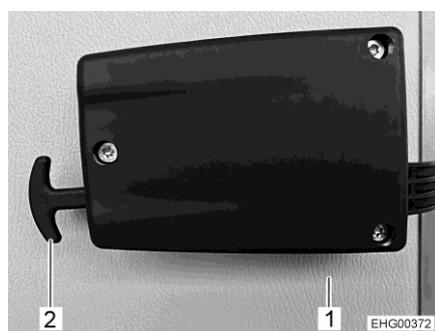

Fig. 55 Garage flap emergency release
- Pull both handles of the emergency release (Fig. 55,2).
- Push the garage flap (Fig. 55,1) outwards.